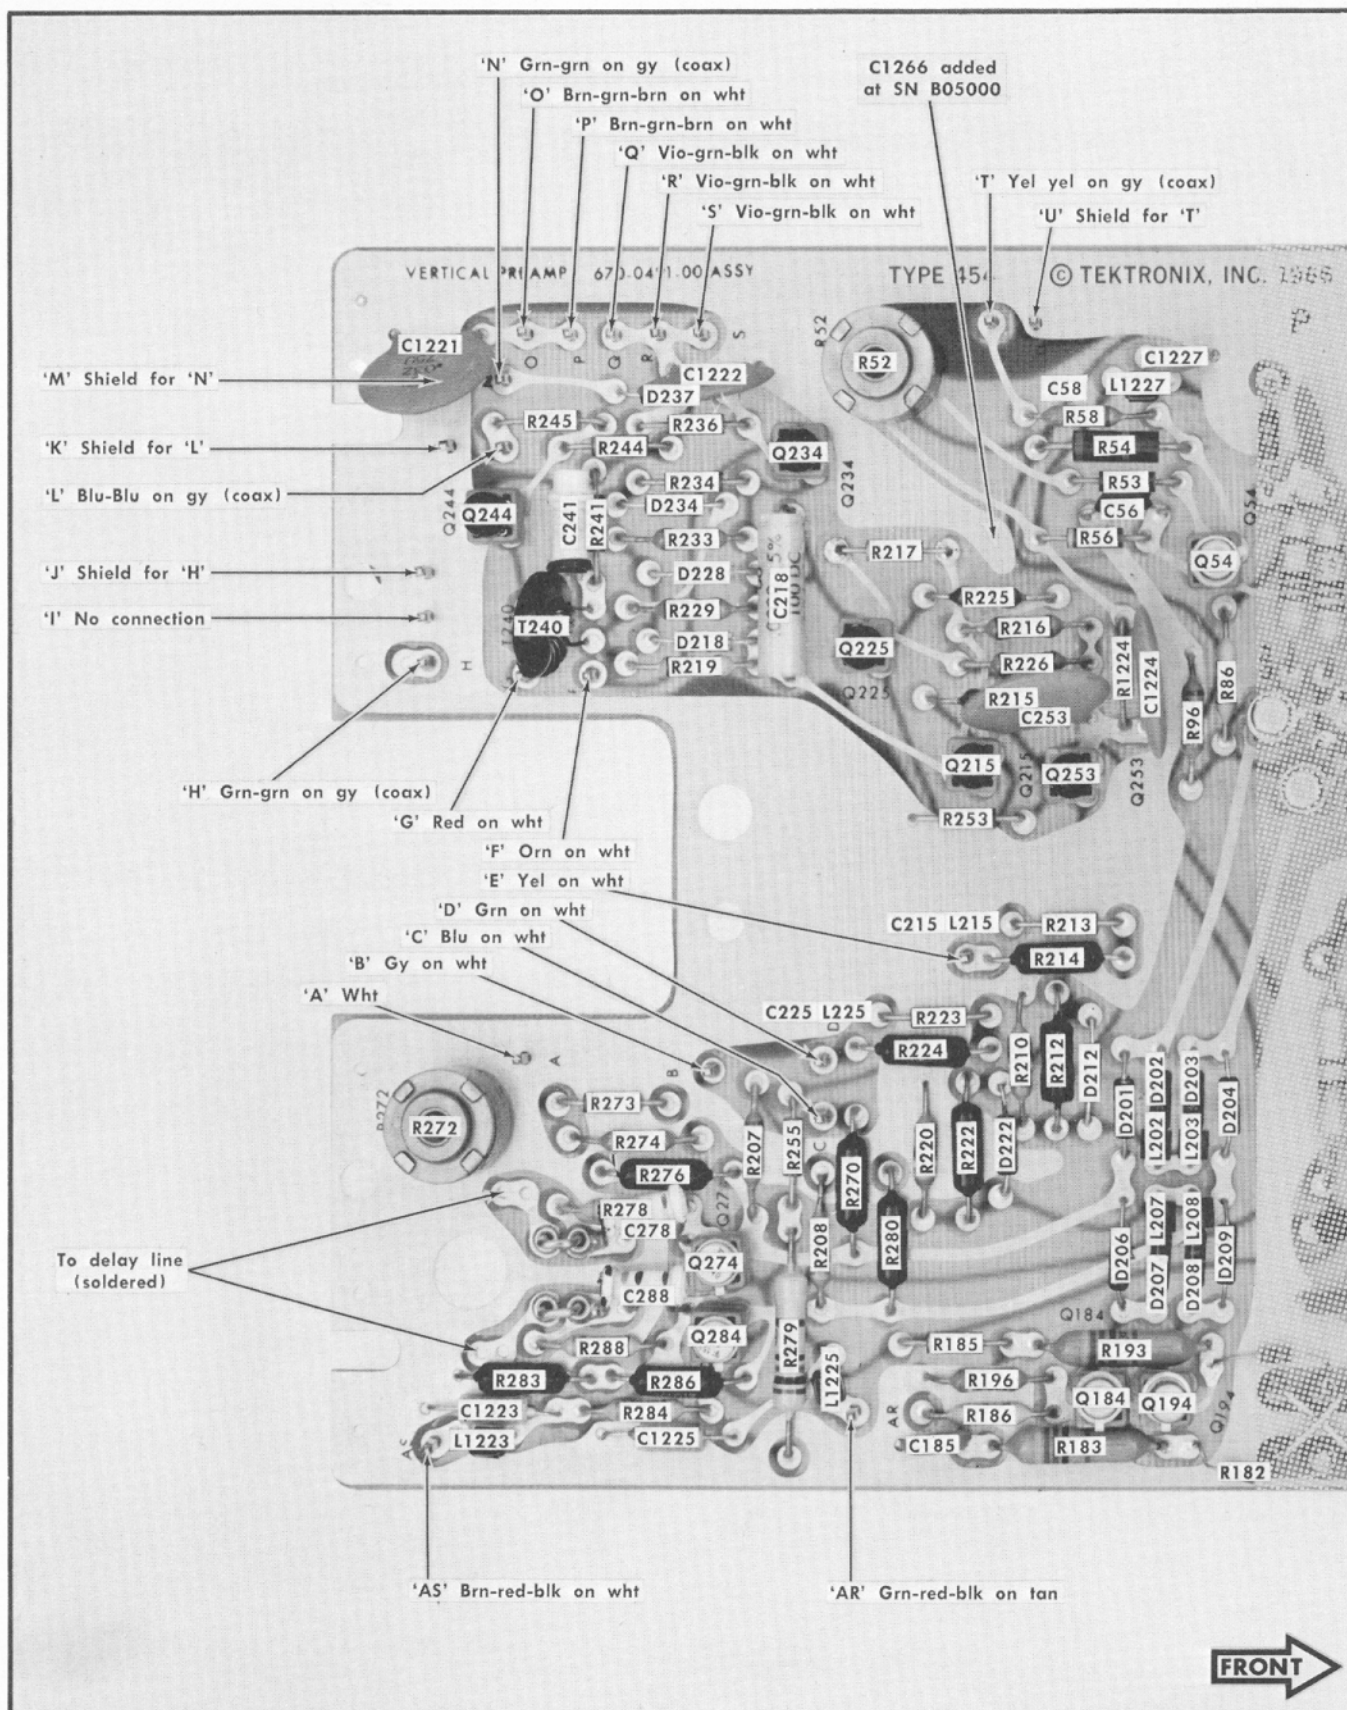

Fig. 4-9. Partial Vertical Preamp circuit board. Vertical Switching and partial Ch 1 and 2 Vertical Preamp circuits shown.
11. To replace the unit, reverse the order of removal. Be sure the GAIN and INVERT extensions are positioned correctly in the corresponding front-panel holes. Correct location of the pin connectors is shown in Fig. 4-9 and 4-10.